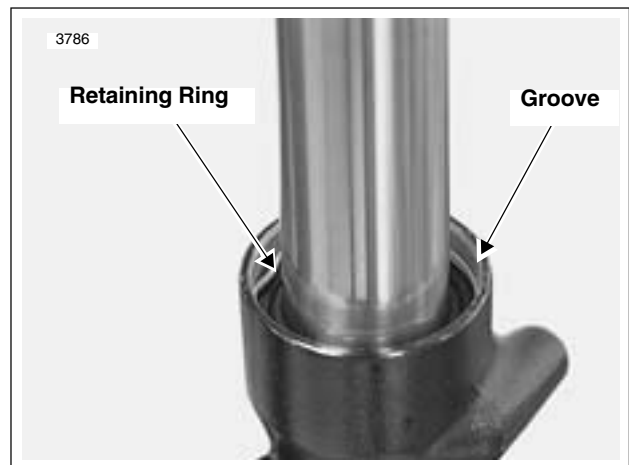

Figure 2-81. Install New Retaining Ring
15. See Figure 2-81. Install retaining ring. Verify ring is under groove inside slider assembly.